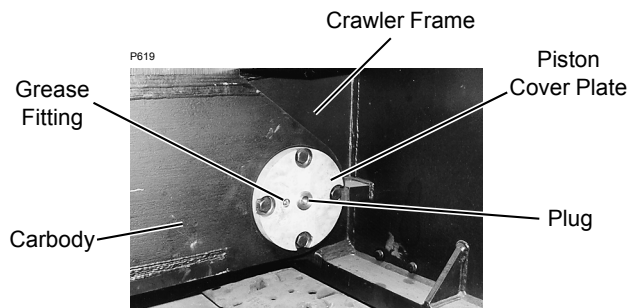

FIGURE 4-22
- a. Pump grease into the grease fitting on the piston cover plate (Figure 4-22) while holding the crawler frame pin switch at the disengage position for 10 seconds.